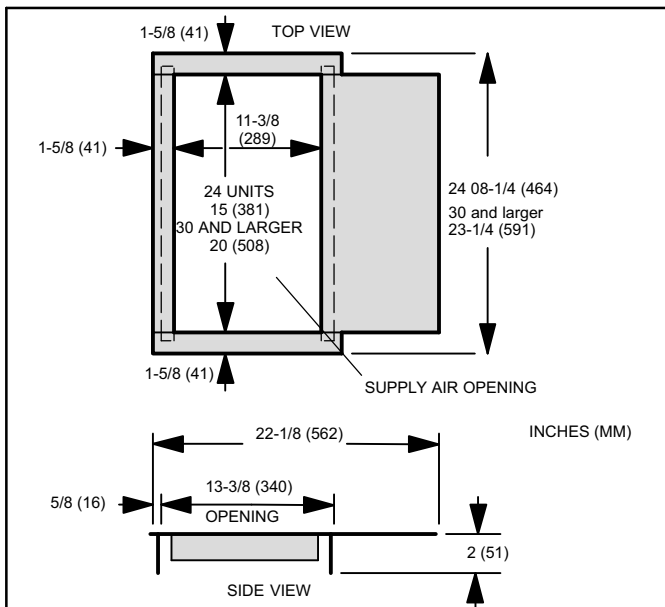

Figure 10. Downflow Combustible Base Dimensions
9. Cut an appropriately sized opening for combustible base. Base dimensions are illustrated in figure 10. After opening has been cut, set the additive base into opening. Connect outlet air plenum to the additive base. Set the unit on the additive base so flanges of the unit drop into the base opening and seal against the insulation strips. The unit is now locked in place. Install return air plenum and secure with sheet metal screws.